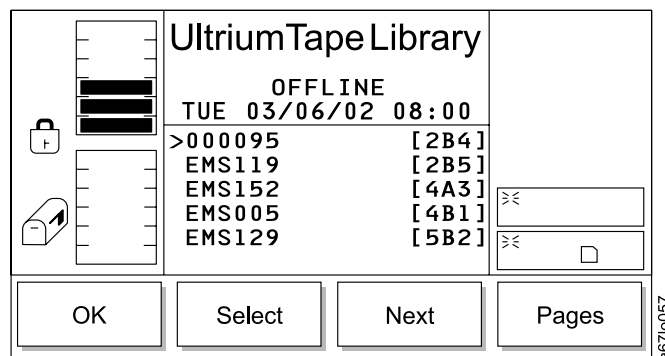

Figure 131. Export Select Dialog
- If **Select** is selected, the selection cursor displays beside the first item in the list (see Figure 131).